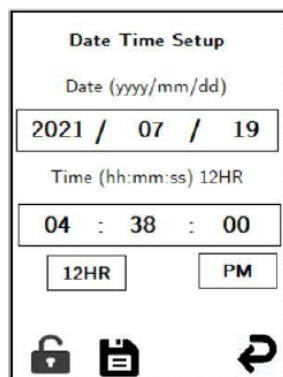

Figure 1: Date Time Screen
5. Once powered up, set date and time by selecting Settings page 2, Date and Time. See Figure 1.